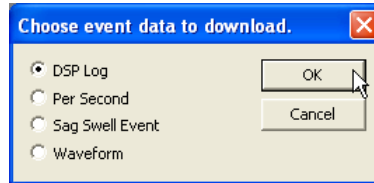

Figure 5.9: Download Event Screen – PSCSV
To review data recorded in flash triggered by an event, click the Download Event button and a small window (see Figure 5.9) should appear with the following data types:
1. Begin by clicking the Download Event button to open the "Choose event data to download" window – see Figure 5.9. Select the DSP Log radio button, and click OK.